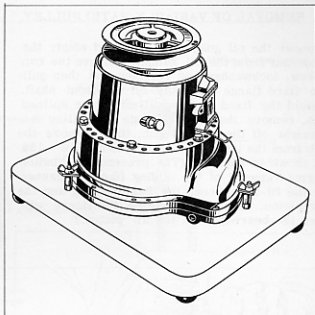

FIG. 16 ASSEMBLY AND DISASSEMBLY JIG
NOTE: The flat washers must be placed between the lockwashers and the surface of the scroll cover to prevent hogging or gouging the cover. Fit the supercharger into the special assembly Jig, No. KW-157, Figure 16, and remove the retaining hex-head screws, lockwashers and flat washers. Remove the bearing housing by twisting it free of the scroll housing. After the housings are separated, remove the two sealing "O" rings from the bearing housing.
Install the scroll cover on the scroll housing, retaining it with four (4) screws and fit the housing into the assembly jig, No. KW-157, Figure 16.